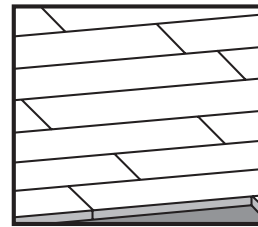

FIGURE 1.1 (CORRECT)
STEP 4: Cut off the last piece in your starting row, leaving proper expansion space from the wall 1 1/2" (39 mm) from the wall and use it as your 1st piece or starter board for the 2nd row. It is best to not use a piece under 6" (≈15 cm) as they tend to move out of position. Continue on each row, engaging the groove into the tongue along the side 1st, then the end to be engaged 2nd. Avoid if possible, end joint cluster by staggering ends by twice the plank width or approximately 8 1/2" (21,5 cm) on 4 1/4" wide flooring. If any adhesive comes in contact with the face of planks, use adhesive remover before it dries. Figure 1.1 and 1.2